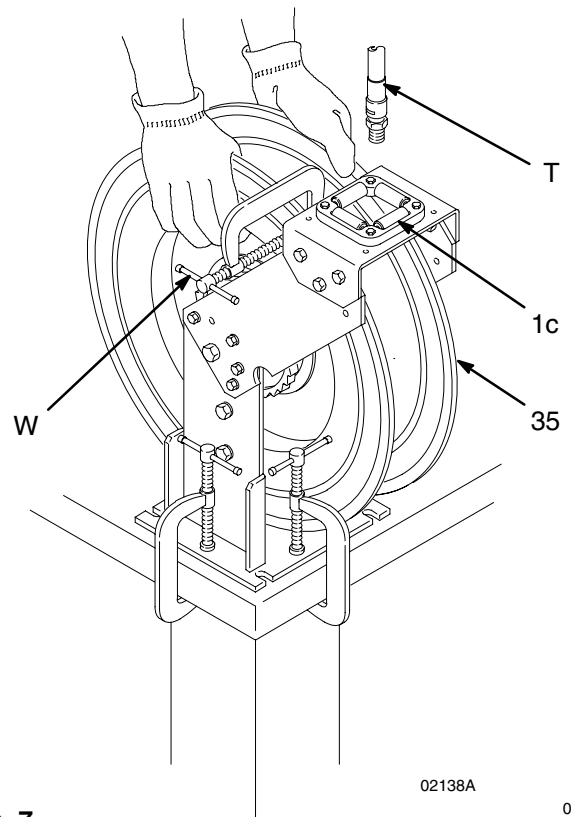

Fig. 7
3. Wearing heavy gloves, firmly grab the outside edge of the reel flange with both hands. See Fig. 7. Wind the reel the proper number of turns, rotating it clockwise and stopping only at latching locations. Stop the reel where there is access to the hose swivel (P) (see Fig. 6) and where the reel is securely latched.
4. Before you install the hose, attach a c-clamp (W) to the reel flange to help prevent the reel from unintentionally becoming unlatched and spinning freely. See Fig. 7.
3. Pull the hose (T) back through the hose rollers (1c). See Fig. 7.
4. Wrap a loop of hose onto the reel flange (35).